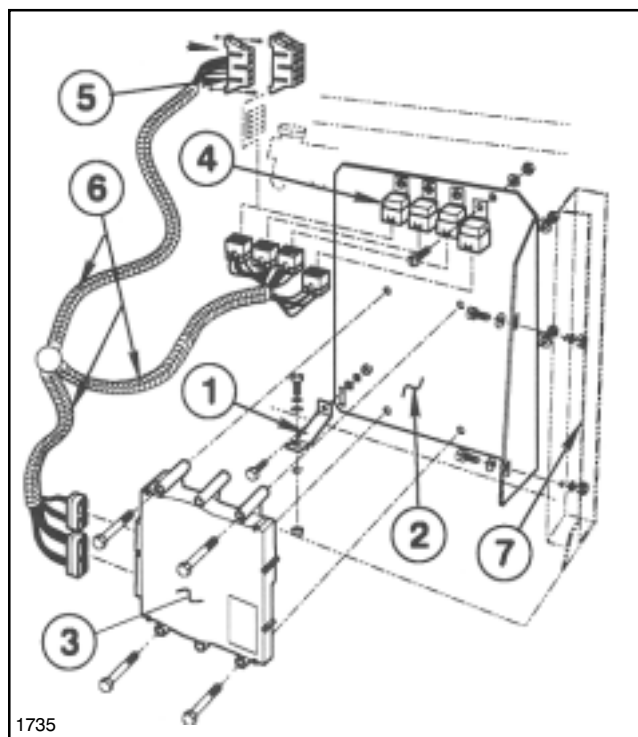

FIG. 21
3. Mount the Support Bracket to the ECU Bracket using (1) 5/16 NC x 3/4" cap screw, flat washer, lock washer, and hex nut. See FIG. 21.
4. Mount ECU to Bracket using four (4) 1/4 NC x 2-1/2" hex hd cap screws, lock washers and hex nuts. See FIG. 21.
5. Mount ECU to Bracket using four (4) 1/4 NC x 5/8" hex hd cap screws, lock washers and hex nuts. See FIG. 21.
6. Remove fasteners securing Vehicle Fuse Block(s). Slide Sonic Boom™ Fuse Block together with Vehicle Fuse Block(s) and remount all Fuse Blocks to Vehicle using fasteners previously removed. See FIG. 21.
8. Mount ECU Bracket to Upright Post, using two (2) 5/16 NC x 3/4" cap screws, flat washers, lock washers, and hex nuts. See FIG. 21.
10. Secure Support Bracket to floor, using a 5/16 NC x 3/4" cap screw, flat washer, lock washers, and hex nut. See FIG. 21.